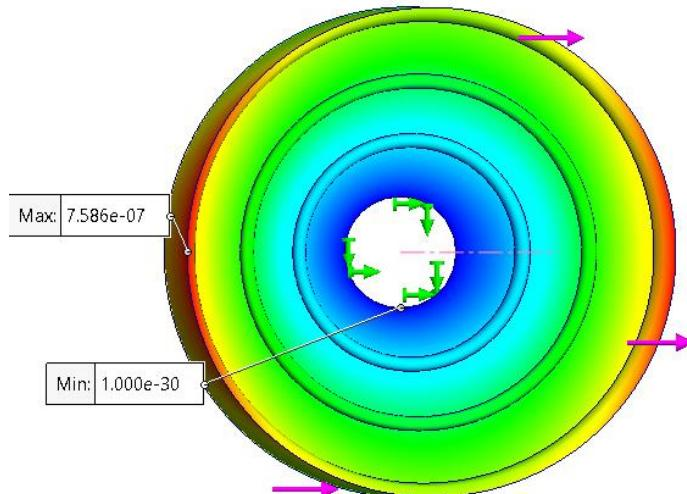

Fig 17: Min and Max value indicators on displacement plot
- Maximum and minimum value indicators can be displayed on stress and displacement plots (Fig 17). Right-click on the plot > go to Chart Options > check “Show min annotation” and “Show max annotation” options